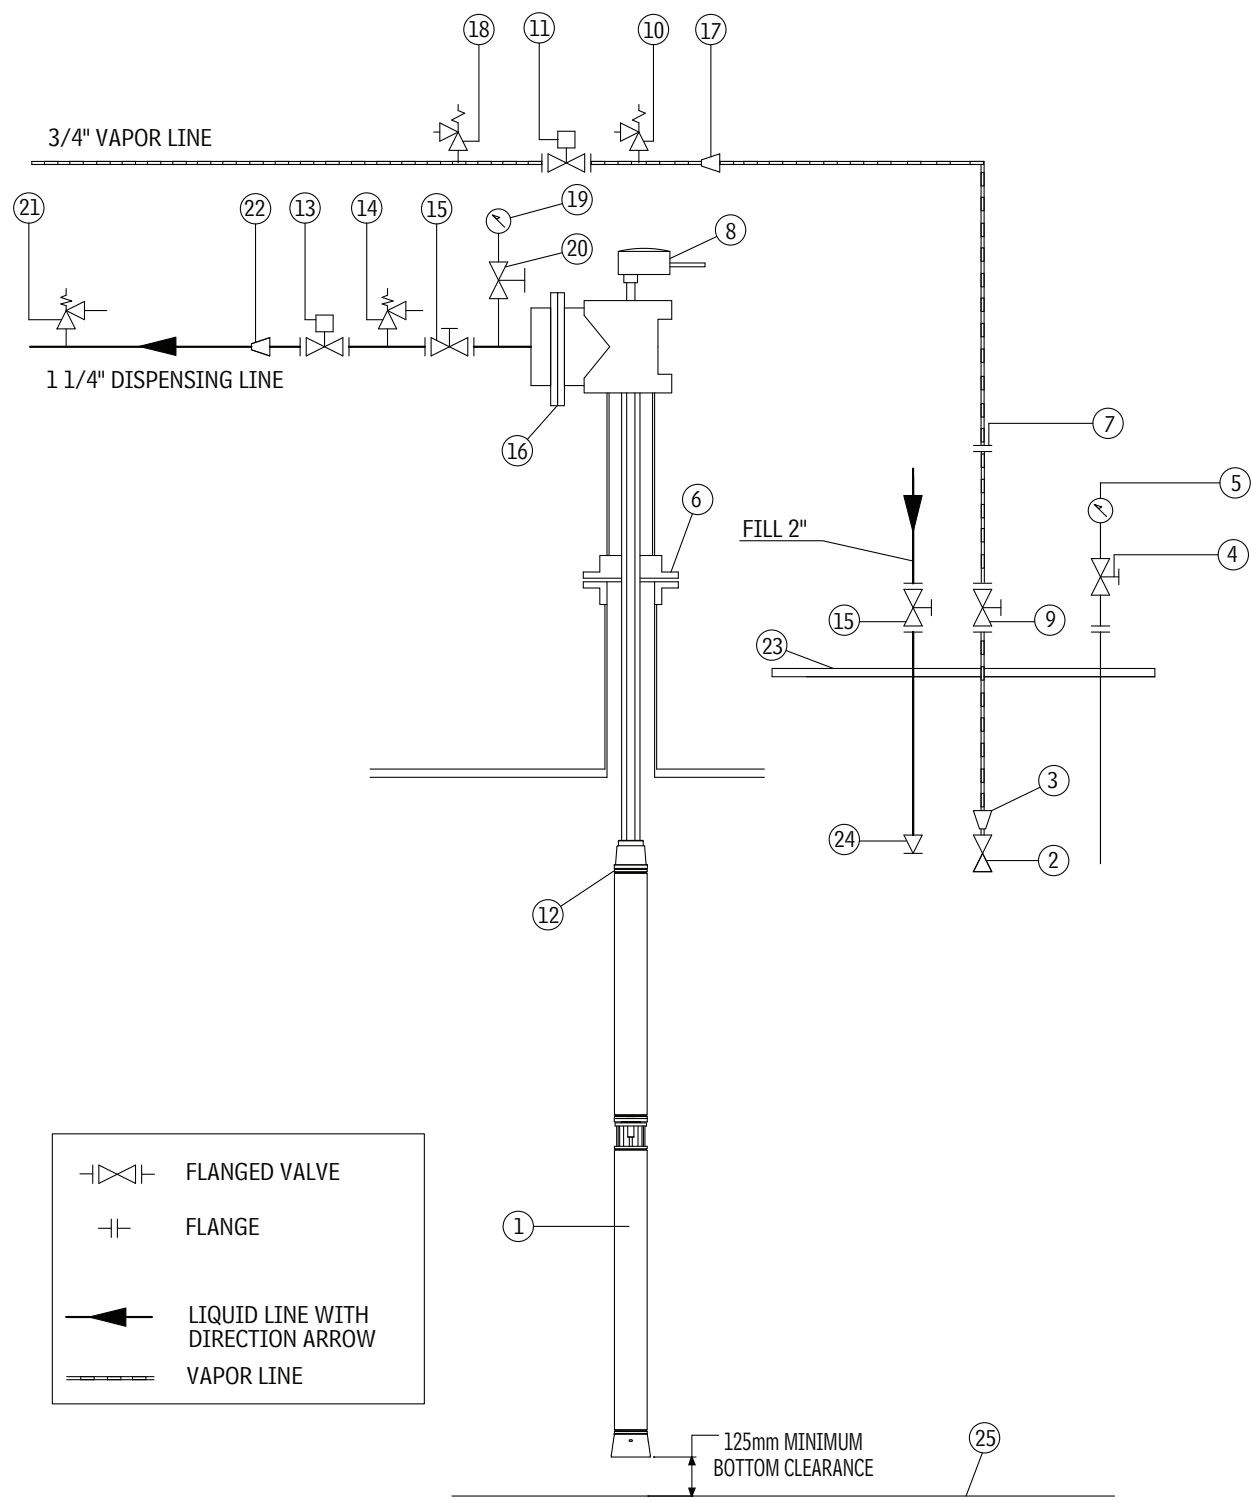

Figure 1. Direct Installation of Red Jacket LPG Pump-Motor Unit
In such installations, the clearance between the tank bottom and pump inlet must be a minimum of 125 mm (5 inches). A sump directly underneath the pump may be used if the size is at least DN200 (8 inches). Figure 1 illustrates recommendations for the Red Jacket LPG pump directly installed in a tank and Table 2 contains an itemized material list for the Figure 1 installation.
**Table 2. Recommended Material List for Direct Installation of Red Jacket LPG Pump-Motor Unit (ref. Figure 1)**